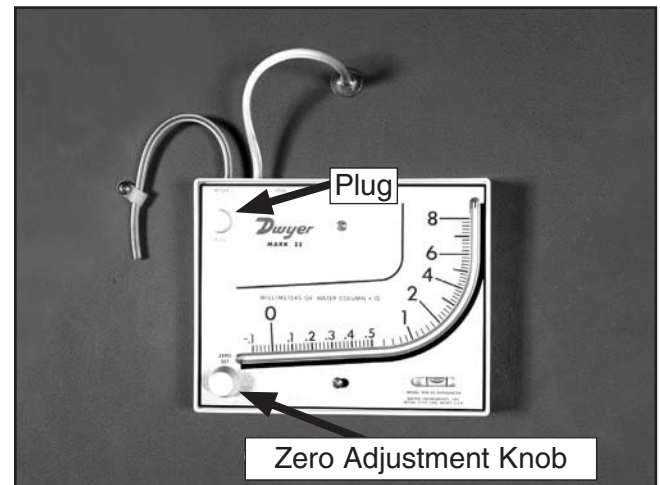

Figure 18. Air filter indicator controls.
4. Rotate the zero adjustment knob counter-clockwise (**Figure 18**) until it stops, then turn it clockwise three turns.
5. Remove the plug (**Figure 18**) and fill the chamber with the included red gauge oil until the fluid level reaches zero on the indicator. Minor fluid level adjustments can be made using the zero adjustment knob.